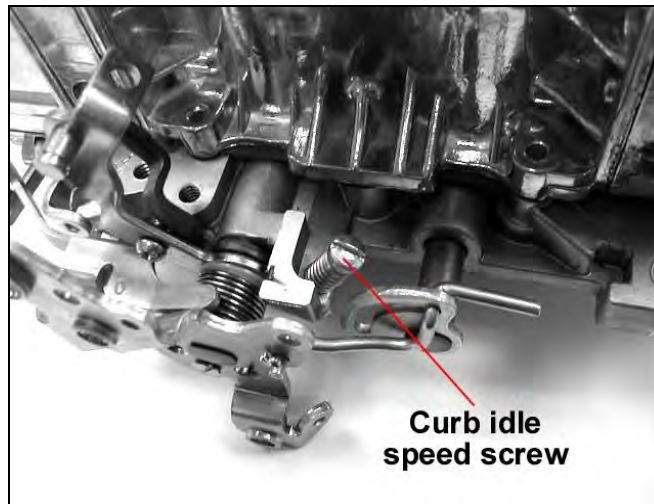

Figure 11
3. Now that the idle mixture is set, it may be necessary to go back and reset the idle speed using the curb idle speed screw, as shown in **Figures 11**.